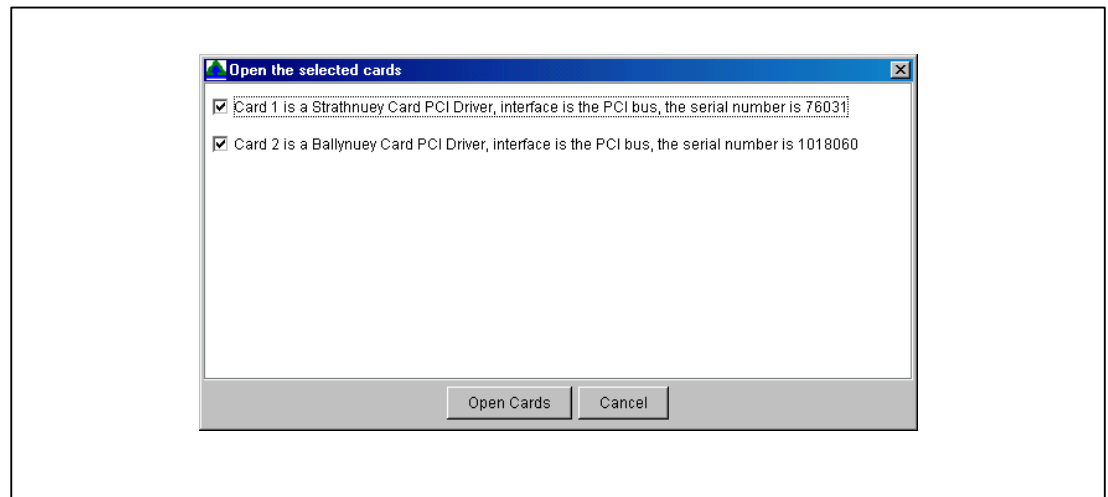
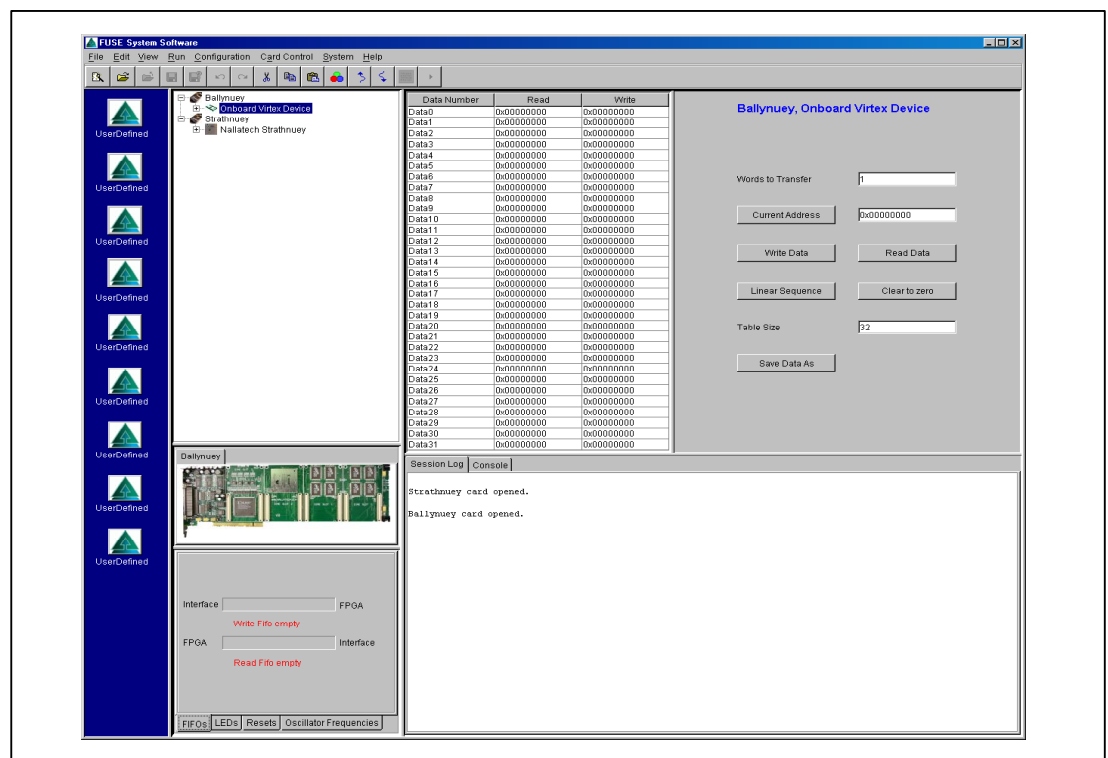

Figure 5: Dialogue box to open cards
Figure 6: GUI showing two cards opened
6. When **Locate Cards** is pressed another dialogue box is displayed showing the cards found. This is shown below in Figure 5:
7. Figure 5 shows that a Strathnuey and a Ballynuey card were found. To open the cards, ensure the check box of the desired card is ticked and then click on the **Open Cards** button. Both cards are now open which is shown in the tree display in Figure 6: